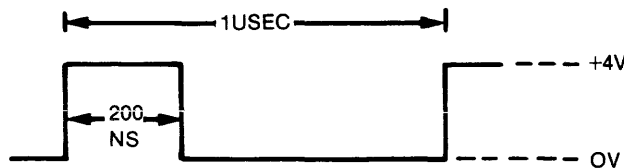

Figure 4-14. Trigger/Trace Point Outputs Test Waveform
- f. Adjust pulse generator to supply waveform shown in figure 4-14 to 1615A.